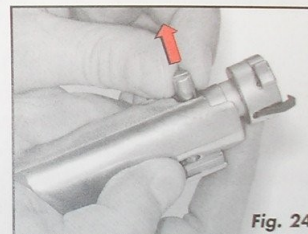

Fig. 24
10. Remove the locking head pin from the bolt (Fig. 24).